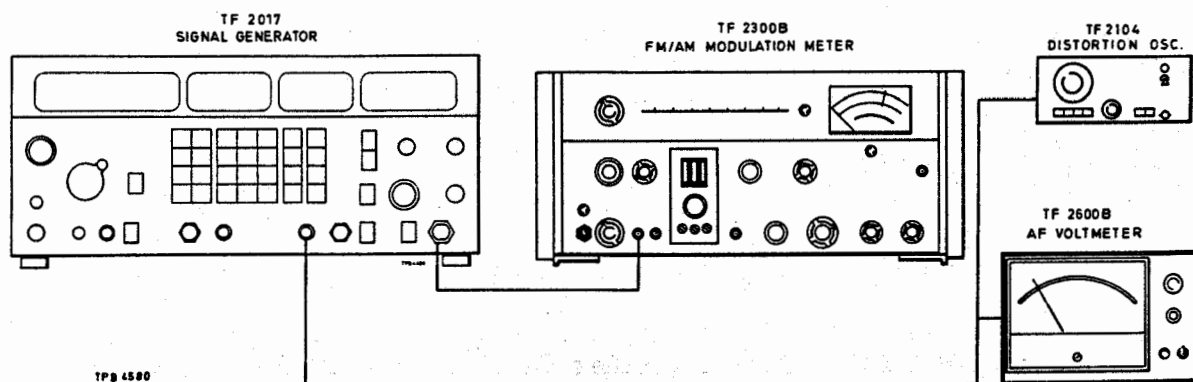

Fig. 9 Test gear arrangement for the checking of external modulation sensitivity
(1) Connect the test equipment as shown in Fig. 9 below.